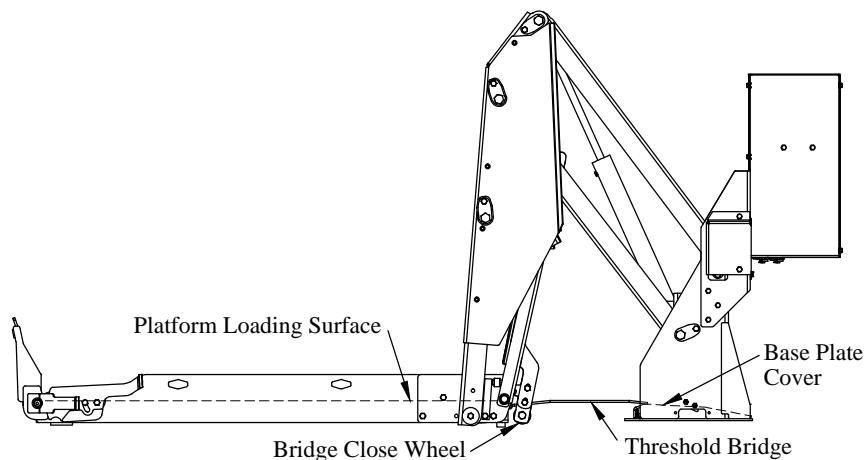

Figure 30: Platform and threshold bridge.
3. **Check** if the platform loading surface is even with base plate cover (Figure 30).
4. **Position** the platform so that it is even with the top of the base plate cover (Figure 30).
1. **Raise** the platform as high as it will go with just the pendant toggle (Figure 30).
3. **Adjust** each bridge close wheel so that it is tight against the bottom of the threshold bridge (Figure 30).